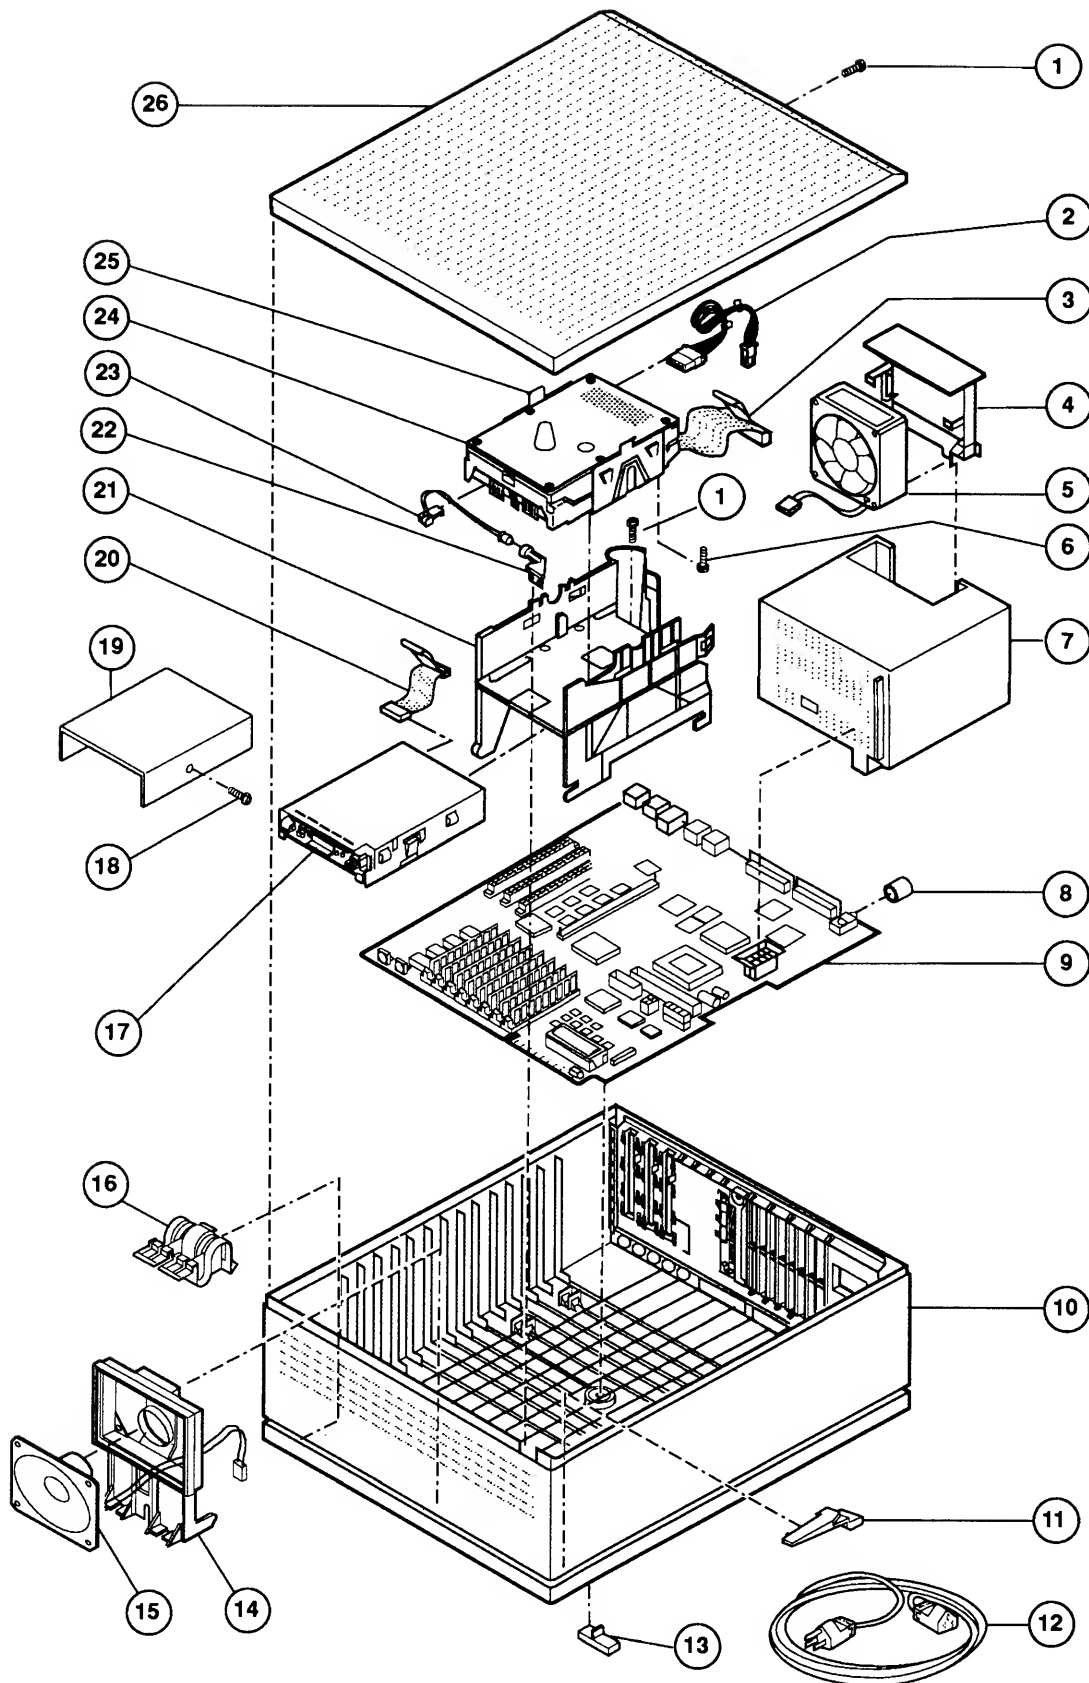

Figure 1 Macintosh IIcx – Exploded View
IPL.3	Macintosh IIcx – Exploded View (Figure 1)
□ MACINTOSH IIfx – EXPLODED VIEW (Figure 1)